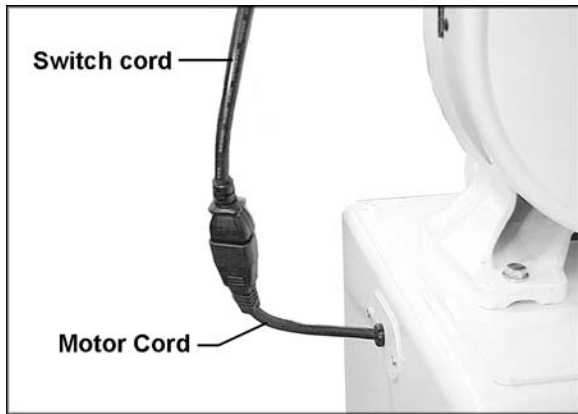

Figure 20
- Connect the plugs of the motor cord and switch cord (Figure 20).